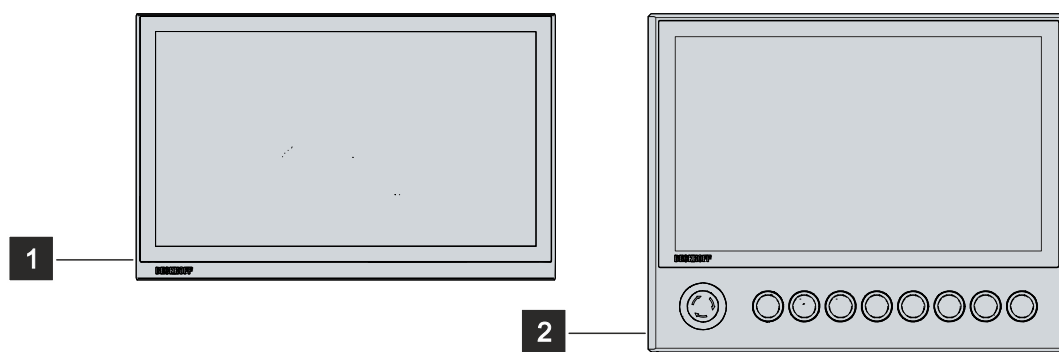

Fig. 1: CP27xx_without and with push button extension
For explanations of the push button extension and the functions, refer to the C9900-G0xx manual. Figure 1 shows an example of a panel PC without (1) and with (2) push button extension.